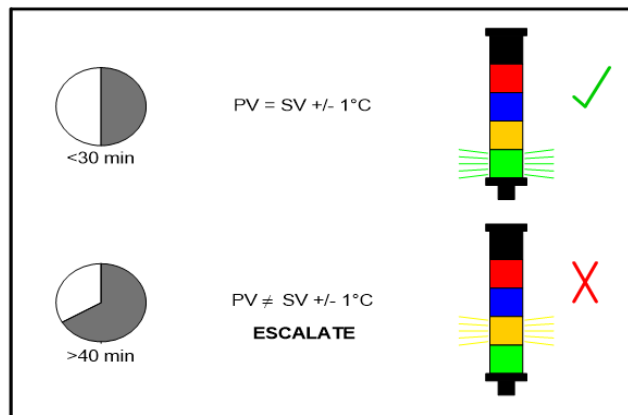

Figure 15
4.1.5. The process temperature (PV) within the printer should move towards and stabilize within $\pm 34^{\circ}\text{F}$ (1°C) of the set value temperature (SV) in approximately 30 minutes (Figure 15):